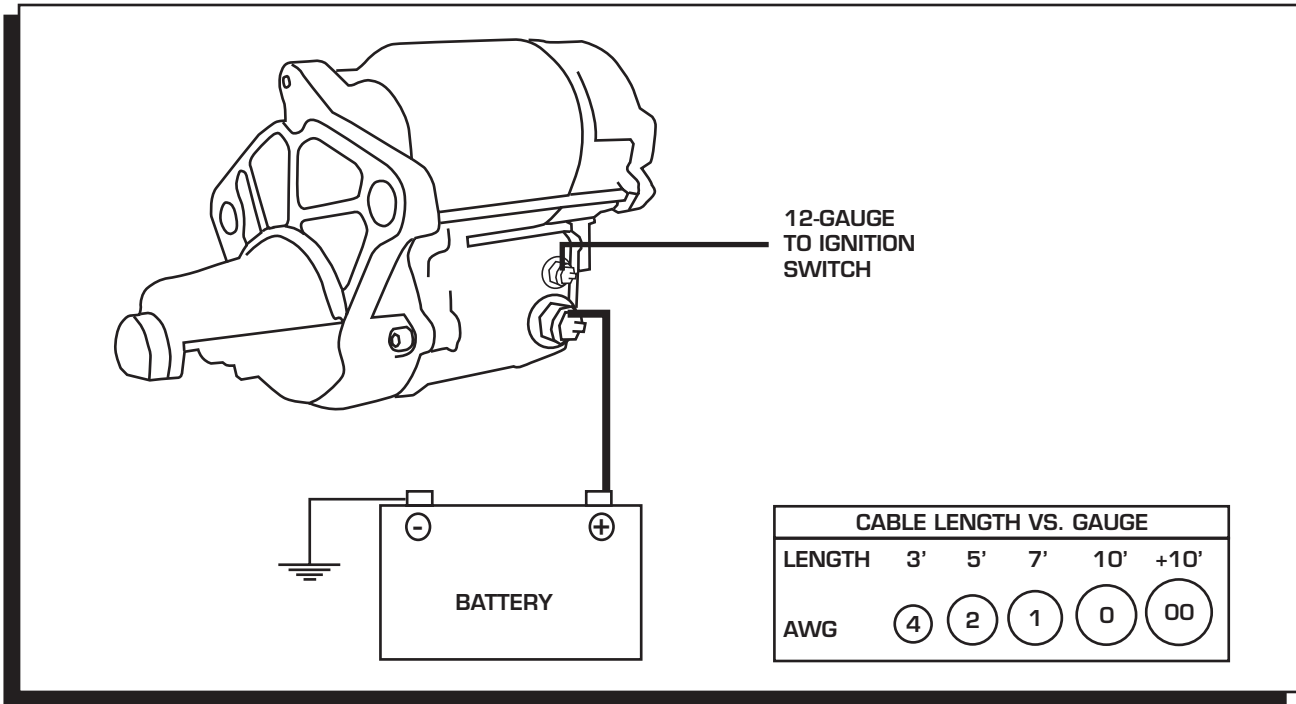

Figure 1 Wiring the Starter.
3. Connect the switch wire to the ignition terminal. This wire should be at least 12-gauge (Figure 1).
4. Attach the battery cable. The gauge of the battery cable depends on its length. Using the proper gauge wire is important to the operation of the starter. Both the positive and ground wires must be able to meet the demands of the starter. The chart in Figure 1 shows the recommended sizes. Be sure to route the wire away from the exhaust and moving parts of the engine.